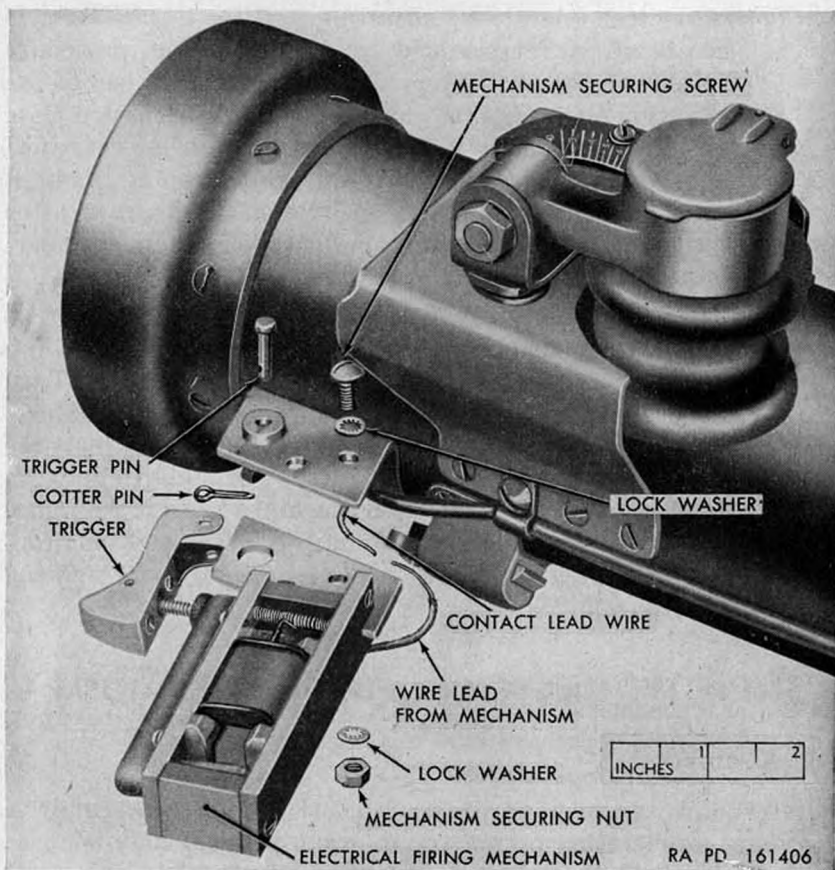

Figure 37. *Electrical firing mechanism 7313326 (removed from barrel).*
a. *Electrical Firing Mechanism 7313326 (Single Action on Trigger Squeeze)* (fig. 37).
- (1) At the firing mechanism, disconnect the contact lead wire leading to the contact clamp. Heat and disconnect the soldered joint between the contact lead wire and the wire lead on the firing mechanism rear plate.
- (2) Remove the cotter pin from the trigger pin and withdraw the trigger pin.
- (3) Unscrew the screw and nut, which secure the firing mechanism to the grip support on the rear barrel. Take care not to drop the two lock washers.
- (2) If a double click can be distinguished when the trigger is squeezed, the nose of the adjusting screw is too far away from the trigger latch. The best adjustment is determined by testing the electrical output of the firing mechanism (*a* above).
- (3) Tighten the set screw to lock the position of the adjusting screw when the best adjustment has been determined.
a. Electrical Firing Mechanism 7313326 (Single Action on Trigger Squeeze) (fig. 37).
- (1) Secure the firing mechanism to the grip support on the rear barrel.
- (2) Place the upper end of the trigger over the grip support and support bracket, so that the holes in the trigger, the support, and bracket aline. Insert the trigger pin and install new cotter pin.
- (3) Connect the contact lead wire, which leads to the contact clamp, at the firing mechanism. Be sure that both the lead from the magneto coil and the contact lead wire from the contact clamp are soldered to the terminal. Use only